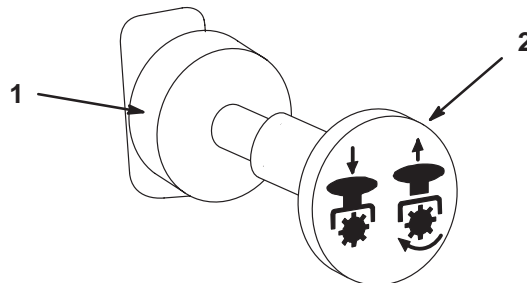

Figure 12
- Pull the power take off (PTO) to the **on** position (Fig. 12).
- Push the power take off (PTO) to the **off** position (Fig. 12).